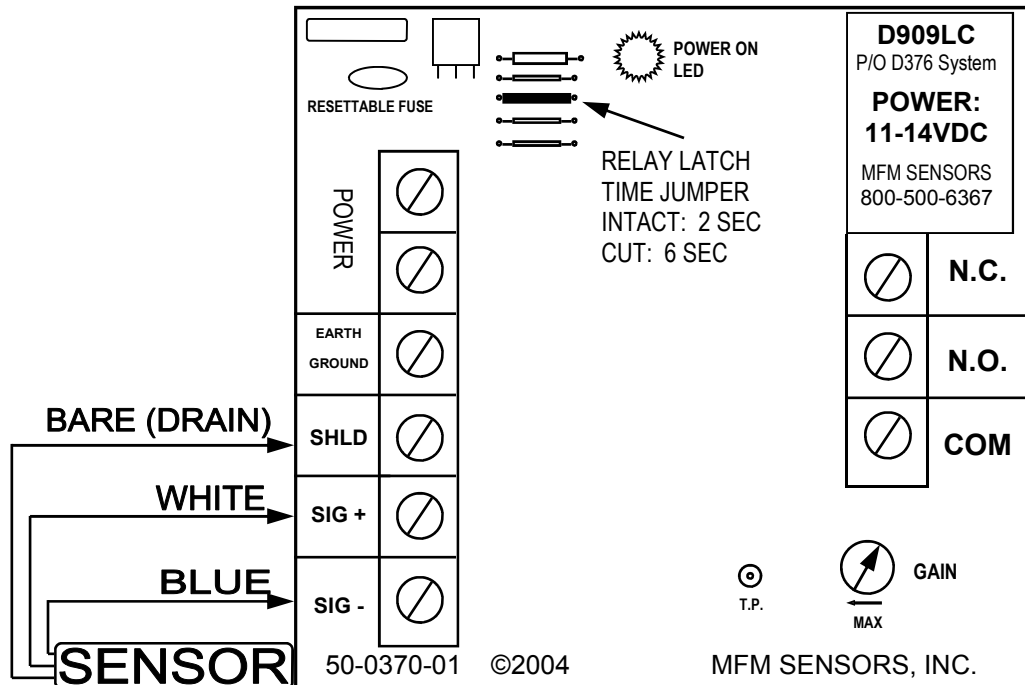

Figure 1 - Model D376LC, D909LC
1. Connect DC power (11 to 14VDC) to the processor. See Figure 1 for connection points.
5. Set the latch time of the relay as required - see Figure 1. The latch time also controls the duration of the 10VDC output between the "+DC OUTPUT" and "REMOTE RETURN" terminals.